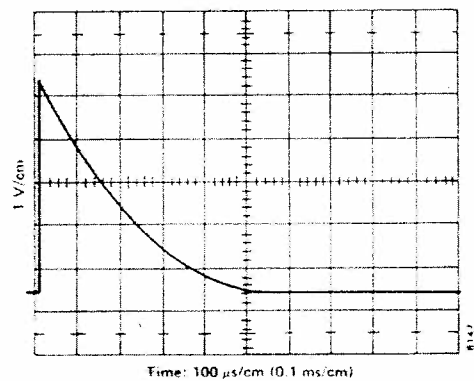

Figure 2 Pulse generator output
4. Turn on the pulser. If you hear a faint buzzing noise, that's normal! Adjust the triggering level on the oscilloscope (8) until you see a display like that in Figure 2. Adjust the position controls until the baseline of the trace is on the grid line 3 cm below midscale, and the rise is along the left-hand edge of the scale. (The rise is very fast and nearly invisible. See if you can expand the scale enough to estimate the rise time; it will be less than 1  $\mu$ sec. Then return the horizontal scale to 100  $\mu$ sec/cm.)